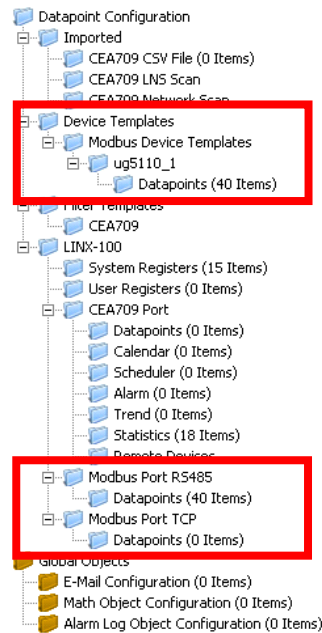

Figure 129: Data Point Manager Dialog with Modbus folder list.
- The folder list (Figure 129),